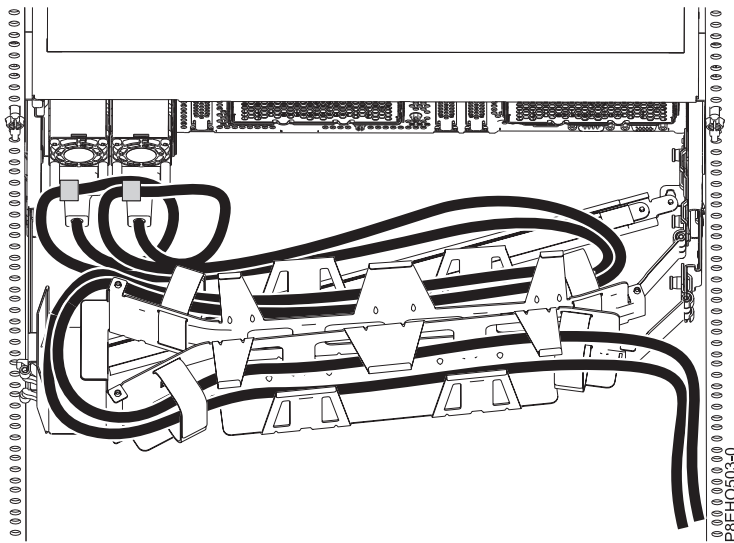
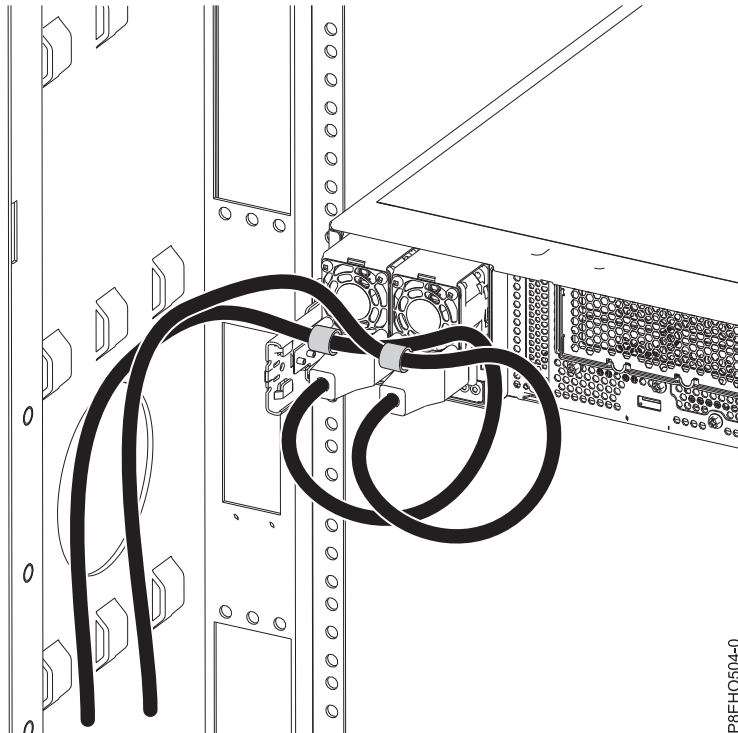

Figure 227. Power cord loop with cable management arm routing. The power cord loops counterclockwise to the right.
Figure 228. Power cord loop with sidewall routing. The power cord loops counterclockwise to the left.
3. Label and disconnect the power cords from the power supply handle. Unfasten the hook-and-loop fastener that ties the power cord to the power supply handle. Note how the power is looped; you will need to make that same loop when you reattach the power cords. You use two types of loops, detailed in Figure 227 and Figure 228 on page 212.